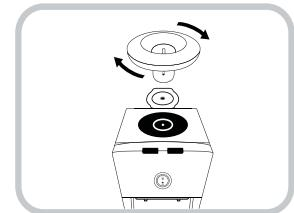

Fig.1
2. Remove the Funnel by turning it clockwise or counter-clockwise depending on the model. Make sure the Hot Water Funnel (semi-transparent plastic piece) is firmly sitting on the metal prong of the tank. (Fig.1)